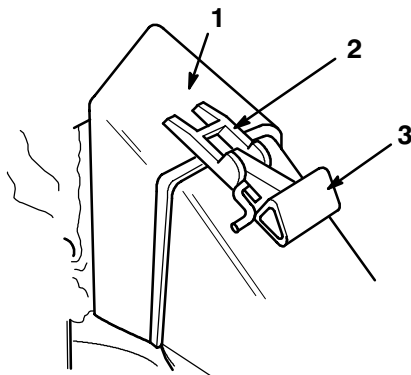

Figure 44
2. Ensure that the discharge door handle is fully forward (door closed) as shown in Figure 44.
Note: In Figure 44, the brush guard is not shown for the purpose of clarity.
3. Fit the bag door opening over the discharge tunnel opening as shown in Figure 44.